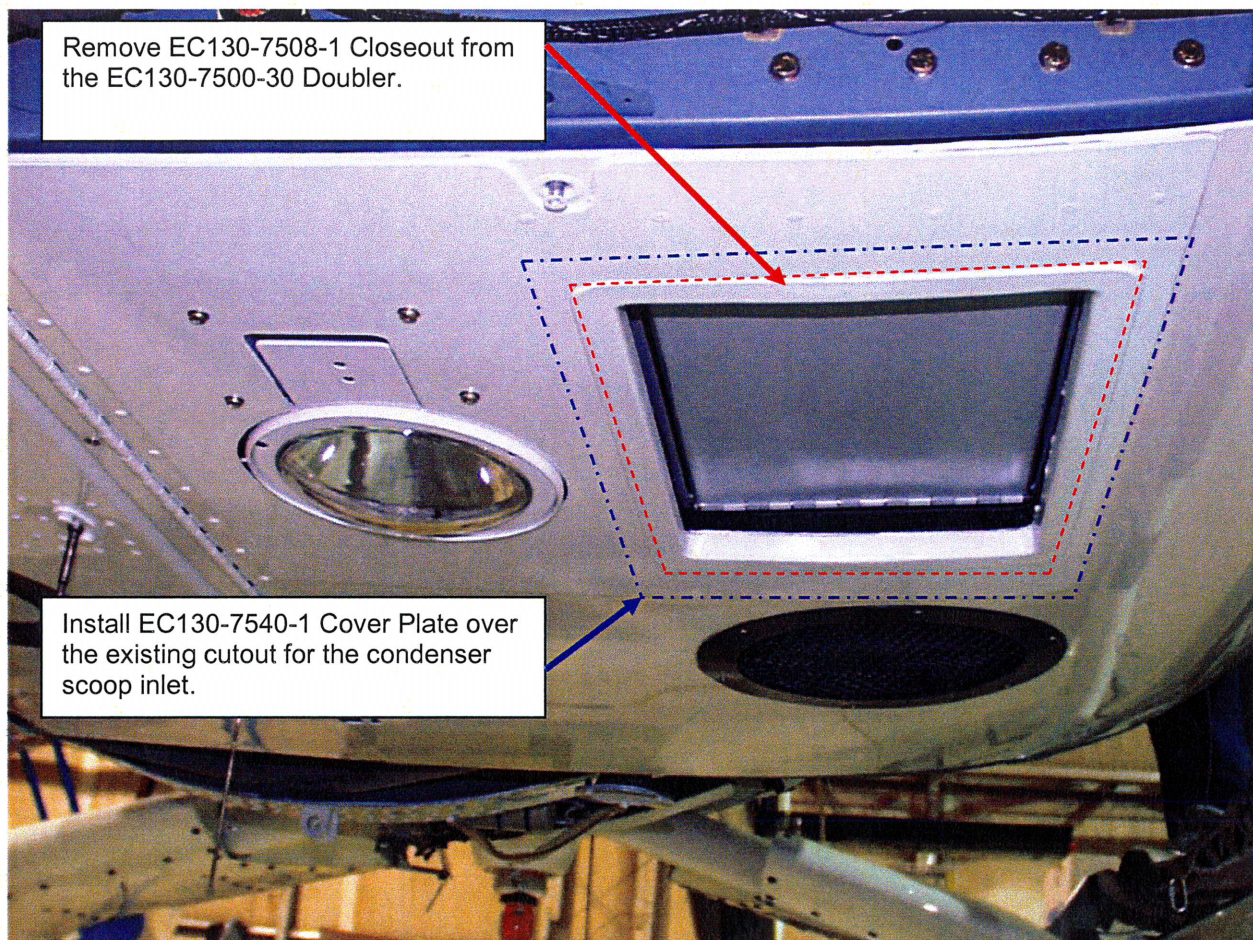

Figure 1-1
2. Install SK-EC130-7540-1 Cover Plate over the condenser cutout in the EC130-7500-30 Doubler installed on the bottom fairing using (24) CR3213-4-3 Rivets. (See Figure 1-1).